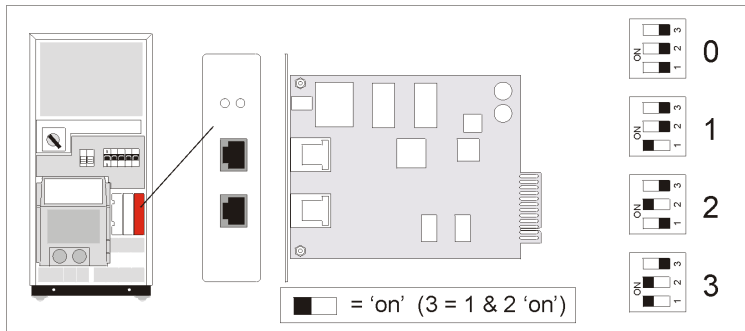

Figure 18. Appointing a unique number to each UPS in the system
5. The right option slot (14) at the rear of the unit contains the the RPA-card. Before the parallel system can be put into operation a unique number has to be appointed to each UPS in the system. This can be 0, 1, 2 or 3. Start with 0 for the first unit, 1 for the second, 2 for the third and 3 for the last unit:
- set the dipswitch to the appointed number (fig. 18)